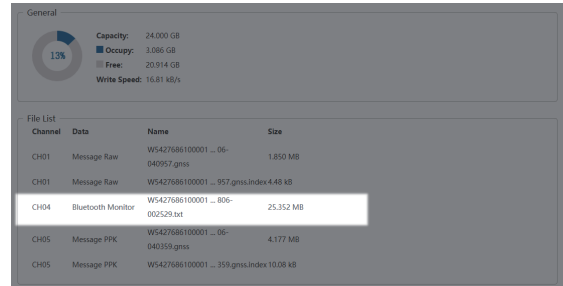

Figure 2.10-5
**Note:** Whenever the tSurvey2.0 software is connected to the device via Bluetooth, the device will automatically configure CH04 to store Bluetooth monitor data. If there are any problems with the settings of the Bluetooth connected device, you can download the recorded Bluetooth monitor data for troubleshooting, as shown in Figure 2.10-5: